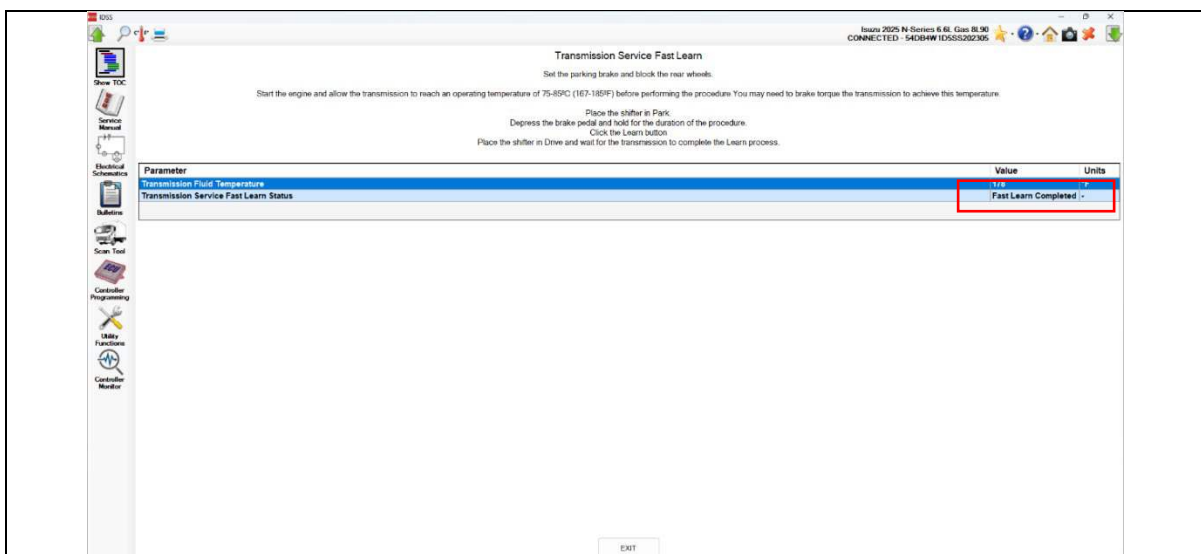

Figure 2
12. When the Transmission Service Fast Learn Status reads “Fast Learn Completed” (See Figure 2.), proceed to Step 13.